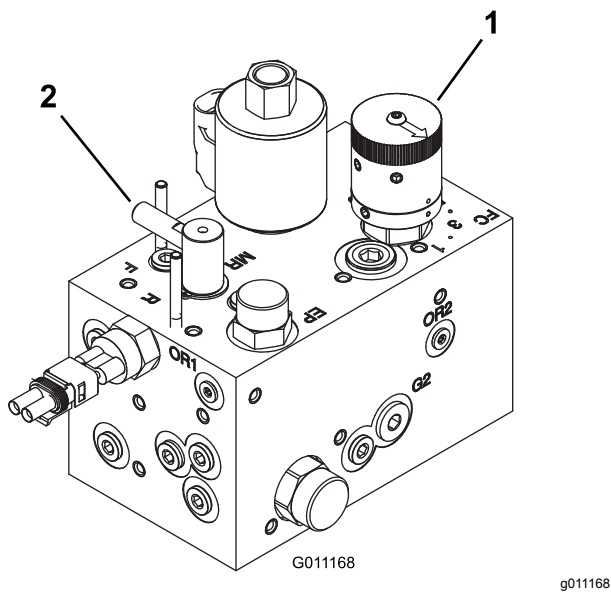

Figure 76
3. Rotate the backlap control to the backlap position (R). Rotate the reel speed control to position 1 (Figure 76).